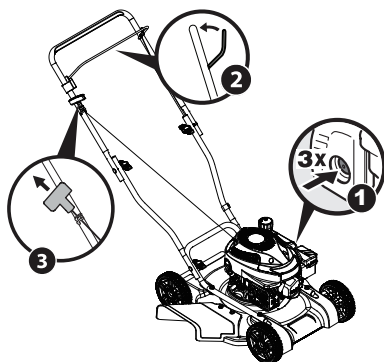

Fig. 7
3. While holding the blade control against the upper handle, keep a firm grip on the starter handle and pull rope out with a rapid, continuous, full arm stroke. Repeat until engine starts. Let the rope rewind each time slowly (Figure 7).